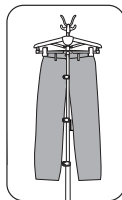

fig.19
- Put garment like dress or pants, into the Upper Pant Clamp (fig. 19)